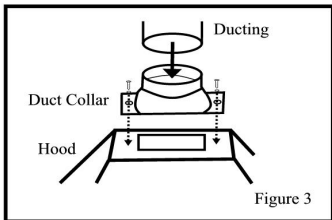

Figure 3
3. Install duct work & electrical (see fig 3)